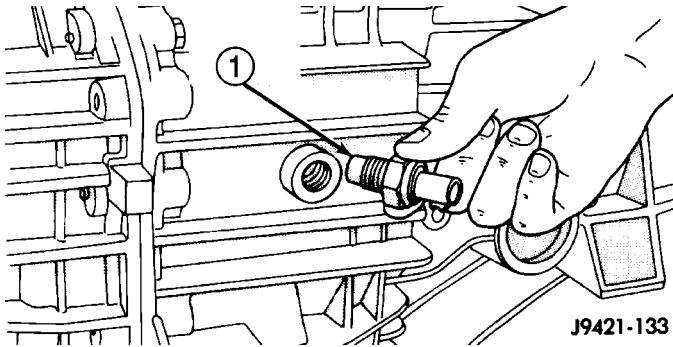

Fig. 122 BACKUP LIGHT SWITCH
- (15) Install detent spring inside plunger.
- (16) Install plug on detent spring and compress spring. Then drive detent plug into transmission case until plug seats.
- (17) Install backup light switch (Fig. 122).